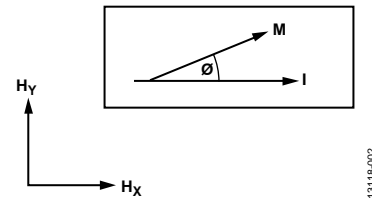

Figure 2. Anisotropic Magnetoresistive Example
Figure 2 shows an example of the AMR effect. A current (I) flowing through a conductor is subject to an external magnetic field (H_y). The resistance of the conductor changes as a function of the angle (θ) between the magnetization vector (M) and the current flow vector (I). The magnetization vector is the net sum of the internal magnetic field (H_x) and the applied external magnetic field (H_y).